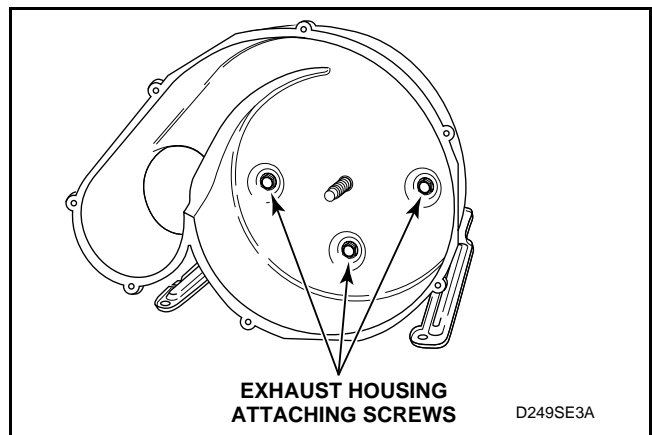

Figure 45
- (3.) Remove three screws holding the exhaust housing to the motor mounting bracket. See *Figure 45*.